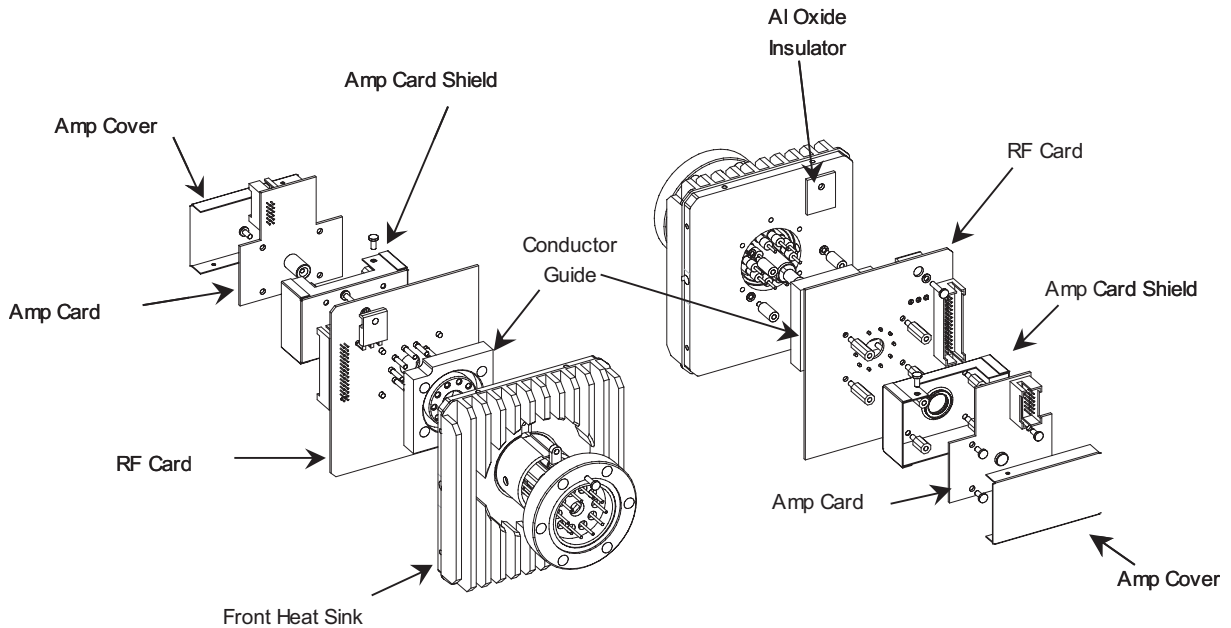

Figure 6-3.
The Amp Card is part of the RF assembly at the rear of the unit. It is located under the Amp cover. See Figure 6-3.
1. There are eight screws holding the RF assembly in the unit casing. Remove the (3) top 1/4" and (3) bottom 1/4" screws.
2. Remove the (2) 3/16" screws from each side.
4. You now have the complete RF assembly in your hand. Refer to Figure 6-3
The RF card is located directly behind the rear heat sink and separated from it by the conductor guide. See Figure 6-3.
1. There are eight screws holding the RF assembly in the unit casing. Remove the 3 top 1/4" and (3) bottom 1/4" screws.
2. Remove the (2) 3/16" screws, one from each side.
4. You now have the complete RF assembly in your hand. Refer to Figure 6-3.
6. Remove the (4) 1/4" screws holding the Amp Card to the Amp card shield.
7. Using the 1/4" nut driver remove the (4) 3/8" standoffs from the Amp card shield. You can now see the RF card.
8. Using the 1/4" nut driver, remove the (4) 5/8" standoffs holding the RF card to the connector guide.